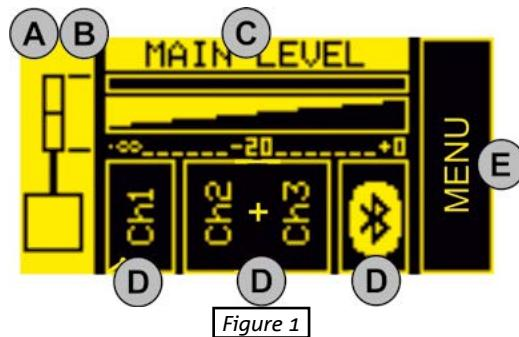

Figure 1
You can perform the following basic operations from the HOME page (figure 1):
- use [5] to select the left box (figure 1) and highlight it. Confirm and turn to select the appropriate configuration. You can set the ES1203 system as:
- DOUBLE COLUMN STEREO MASTER LEFT (ML)
- DOUBLE COLUMN STEREO SLAVE LEFT (SL)
- DOUBLE COLUMN STEREO MASTER RIGHT (MR)
- DOUBLE COLUMN STEREO SLAVE RIGHT (SR)